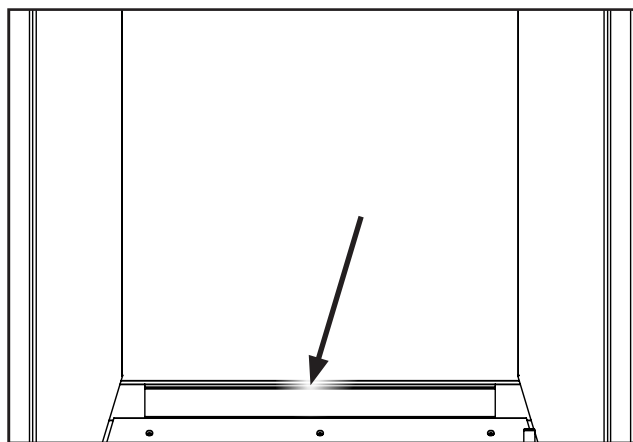

Figure 61. Rear Panel Ledge.
5. Install the rear porcelain panel first by sitting it on the ledge at the rear of the firebox (see figure 61), then follow with the left and right panels.